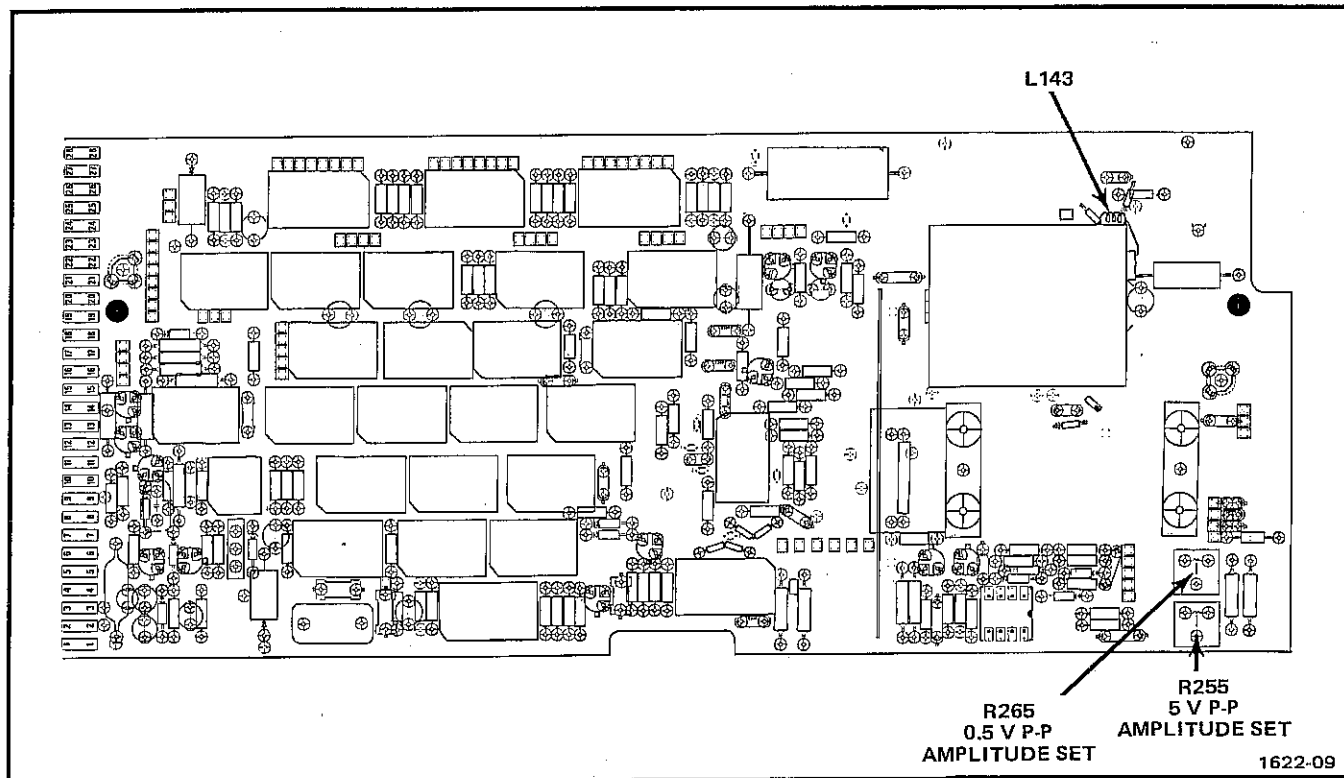
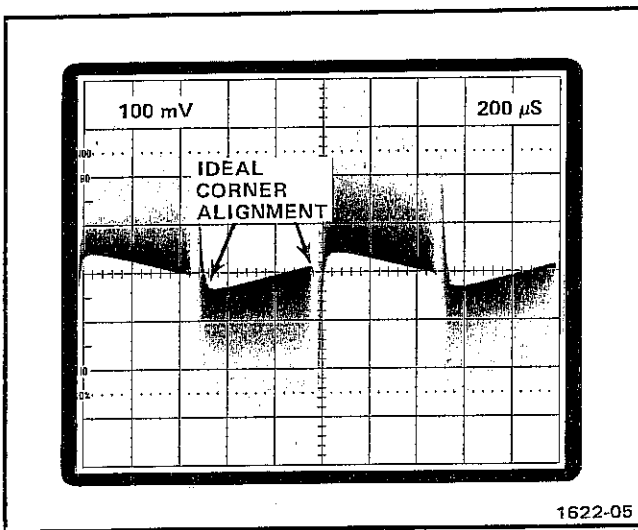

Fig. 3-2. Location of L143, 0.5 V P-P, and 5 V P-P Amplitude Set.
Fig. 3-3. Display of complex waveform (idealized) obtained when the amplitude set controls are properly adjusted at 0.05 MHz.
d. Set the time-base triggering controls for a stable display; a crt display similar to Fig. 3-3 is obtained.
e. Check—that the corners of the idealized waveform are aligned as illustrated in Fig. 3-3. Disregard waveform tilt.
f. Adjust—5.0 P-P Amplitude Set, R255, so the corners of the idealized waveform are aligned as illustrated in Fig. 3-3. See Fig. 3-2 for adjustment location.
i. Check—that the waveform is similar as illustrated in Fig. 3-3.
j. Adjust—0.5 V P-P Amplitude Set, R255, so the corners of the idealized waveform are aligned as illustrated in Fig. 3-3. See Fig. 3-2 for adjustment location.
c. Check—that the corners of the idealized waveform are not separated by more than 1.5 vertical divisions. See Fig. 3-3 for waveform illustration.
g. Check—that the corners of the idealized waveform are not separated by more than 1.5 vertical divisions. See Fig. 3-3 for waveform illustration.
e. Adjust—L143, (physically moving coil), to meet the suppression requirement as given in part d of this step. See Fig. 3-2 for adjustment location.